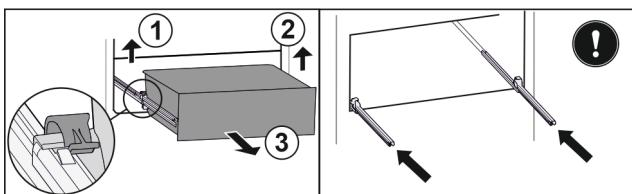

Fig. 130
- ▶ Lift left clamp and simultaneously pull drawer forwards on the left. Fig. 130 (1)
- ▶ Lift right clamp and simultaneously pull drawer forwards on the right. Fig. 130 (2)
- ▶ Remove drawer to the front. Fig. 130 (3)